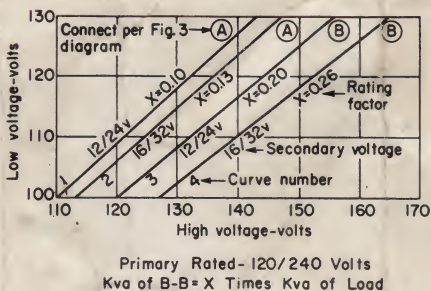

Fig. 1. Single-phase operation (100-165 volts)
STEP 3. Check the secondary voltage of the B-B transformer by referring to Fig. 1 or 2. (The line voltage may be either the low or the high voltage depending on whether the voltage needs to be boosted or bucked.) Choose the rating curve nearest the point where the HV and LV lines cross.